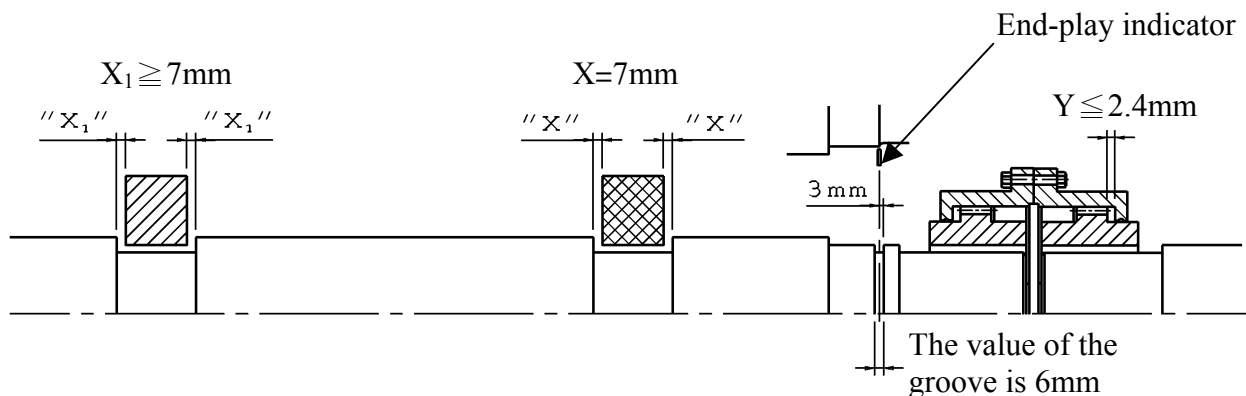

Fig. 6
- Unless otherwise specified, the designed end-play value X of the groove for TECO motors in general is within 7mm as illustrated in Fig. 6. In essence, the end-play indicator is adjusted to point at the center of the groove or the drive-end shaft shoulder; thus X equals to 7 ± 1 mm or so, and the end-play value (Y) of the couplings should equal or be smaller than 2.4mm.